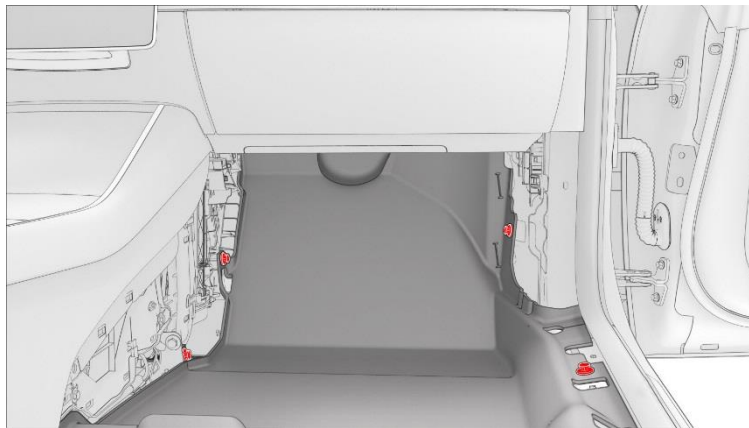

Figure 1
9. Remove the clips (x4) that attach the RH front carpet to the vehicle (Figure 1).
18. Install the clips (x4) that attach the RH front carpet to the vehicle (Figure 1).